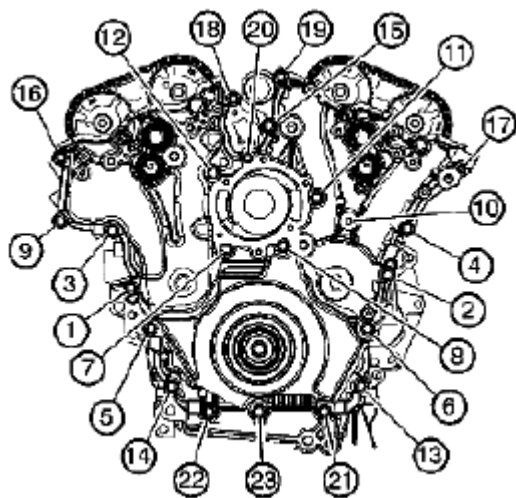

Fig. 956: Tightening Engine Front Cover Bolts
9. Tighten the engine front cover bolts in the sequence shown in **Fig. 956** (1-22).